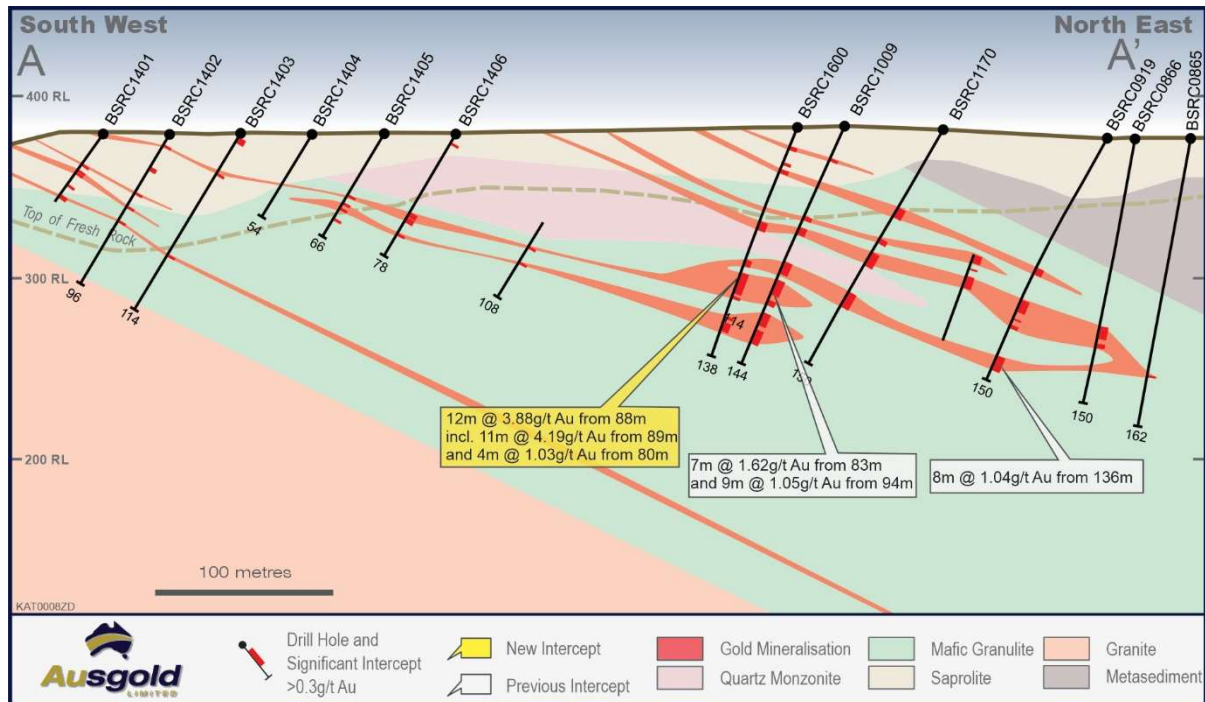

Figure 2 – Cross-section A-A' across White Dam
- 12m @ 3.88g/t Au from 88m BSRC1600 (White Dam), (Figure 2)